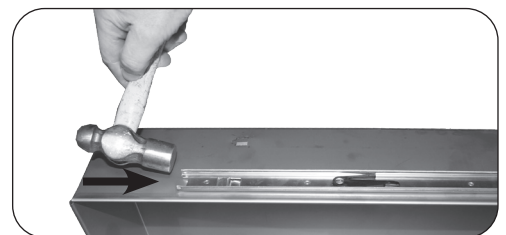

Fig. 5-4 Reinstall runners
3. Align each runner over the alternate notches and use the hammer to gently tap into place (see Fig. 5-4).